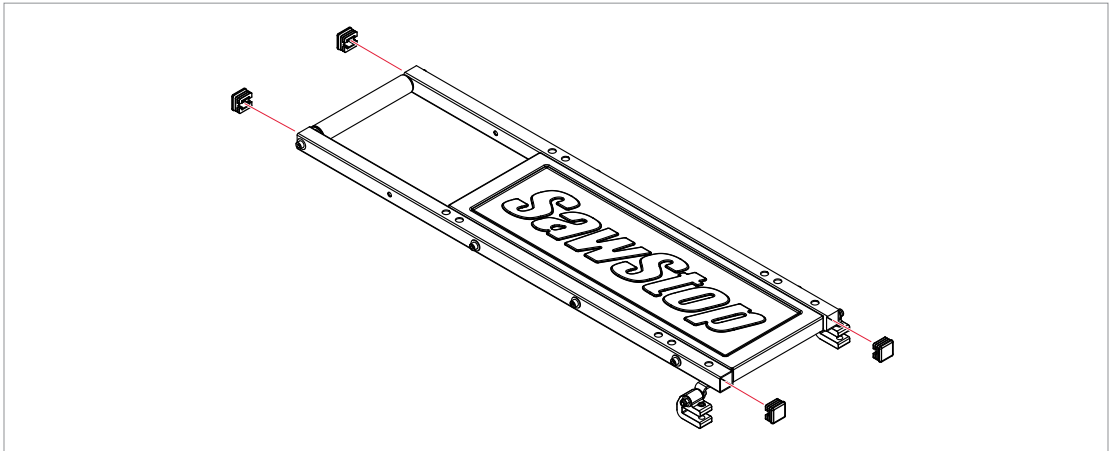

Fig. 13
- 8 Install a tube end cap into the open ends of both table tubes attached to the insert table (see Fig. 13).